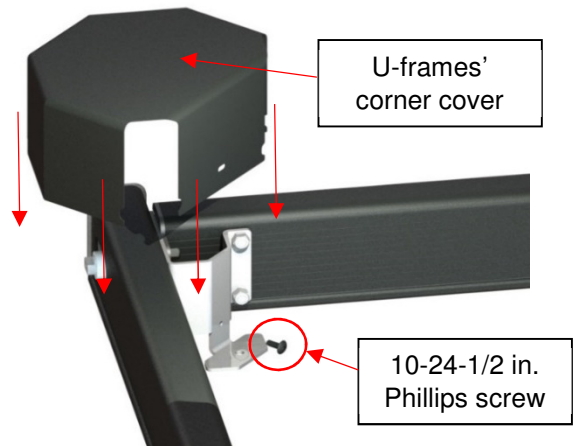

Figure 82
- 13) Remove the four slotted screws at the bottom of the operator and remove the cover. Do not discard these screws. (Figure 82)